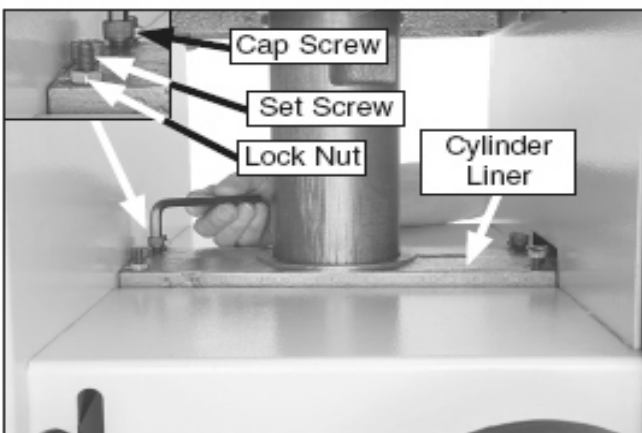

Figure 56. Adjusting table parallelism.
3. Loosen the four cap screws on the cylinder liner, as shown in **Figure 56**.
If the table is not parallel to the cutterhead Side-to-side (**Figure 56**), loosen the two lock nuts on the right or left side of the cylinder liner. Adjust the set screws to raise or lower the table so it is parallel to the cutterhead.